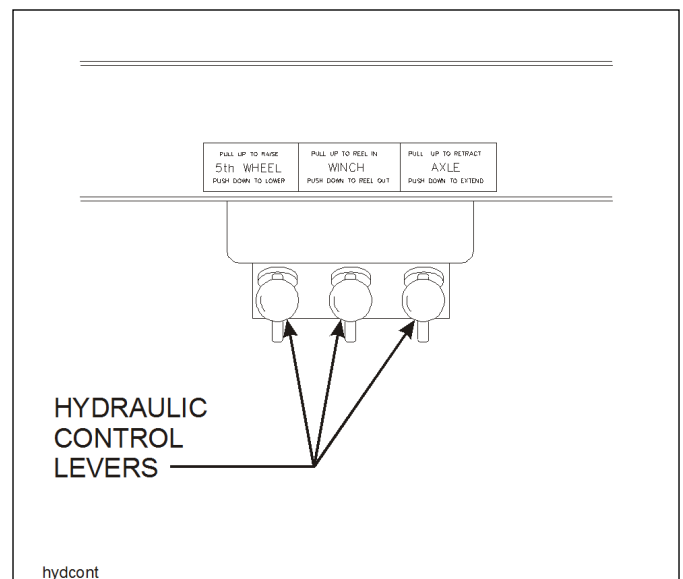

Figure 3-2: Hydraulic Control Levers
2. The king pin plate should be the same height as, or slightly lower than, the latch area of the fifth wheel plate of the tractor. If necessary, connect the tractor hydraulic lines or start the trailer hydraulic power engine. Use the **TRAILER TILT** lever to raise or lower the kingpin plate sufficiently to allow proper coupling (See Figure 3-2.) Drain all air and moisture from the tractor air brake system in accordance with the tractor manufacturer's instructions.
1. While hydraulic power is operating, raise the front end of the semitrailer with the **TRAILER TILT** lever until weight is off the landing gear (See Figure 3-2.) Raise landing gear. Secure each leg with a park stand retaining pin in fully retracted position before transporting.
The **TRAILER TILT** lever is located on the driver's side of the semitrailer under the outer frame beam (See **Figure 3-2.**) It has three positions:
The **AXLE CONTROL** lever is the control on the rear with three positions (See **Figure 3-2.**):
The **HYDRAULIC GEARBOX (WINCH) CONTROL** lever is the center lever (See **Figure 3-2.**) It is a three position control: